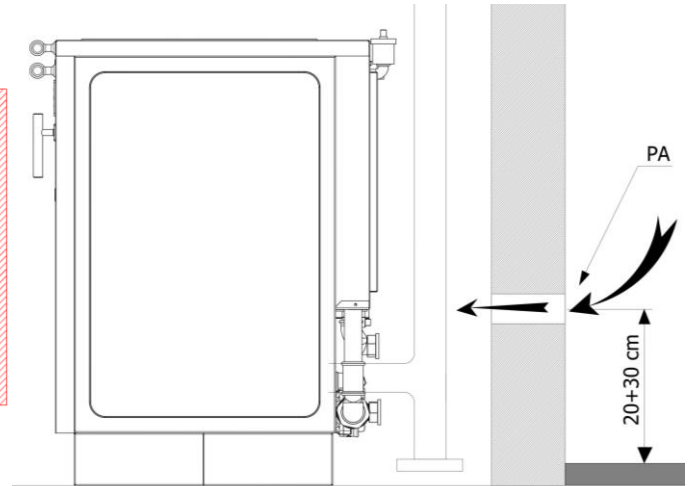

Figure 4
- The outside air can be supplied directly through a tube of 80 mm diameter with a seal (Figure 4).
The flue pipes should be connected so as to have their narrow connection element always turned upward (**Figure 4**).